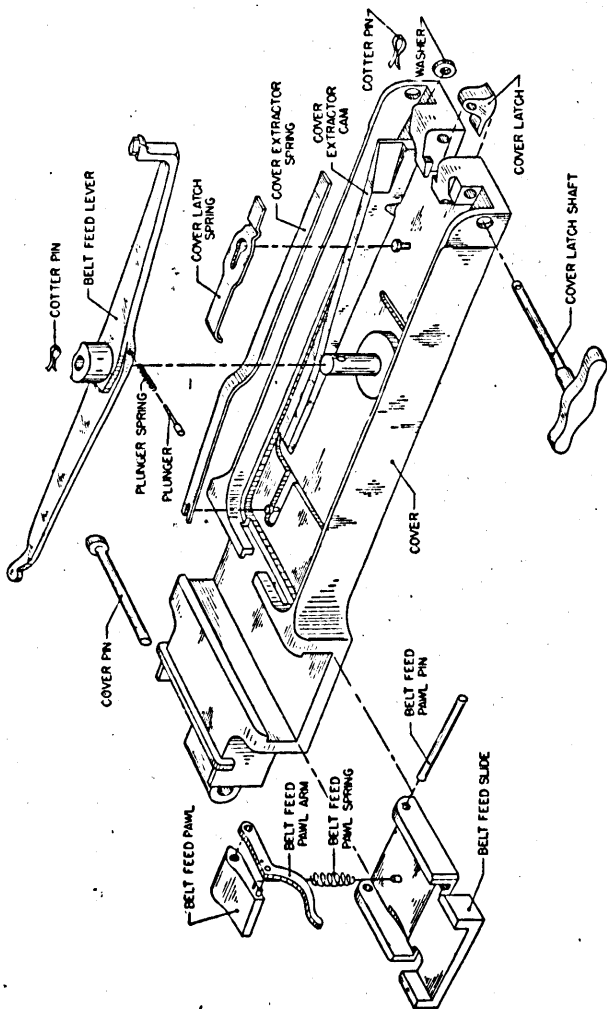

FIGURE 19.—Cover group.
c. The cover extractor cam is riveted to the under side of the cover. This cam forces the extractor and new cartridge downward as the bolt travels toward the rear. The cover extractor spring which is also assembled to the under side of the cover limits the upward movement of the extractor during the final forward motion of the bolt. See figure 19 for complete details of the cover group.